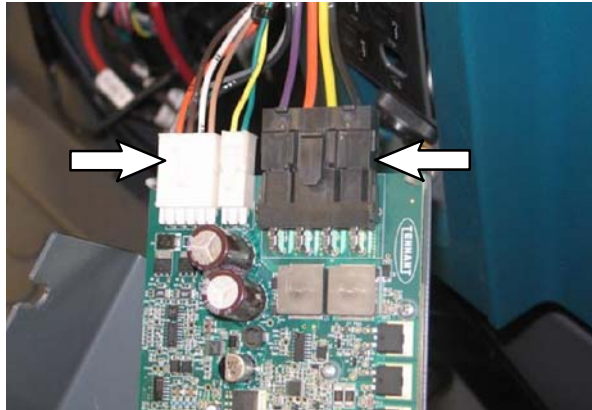
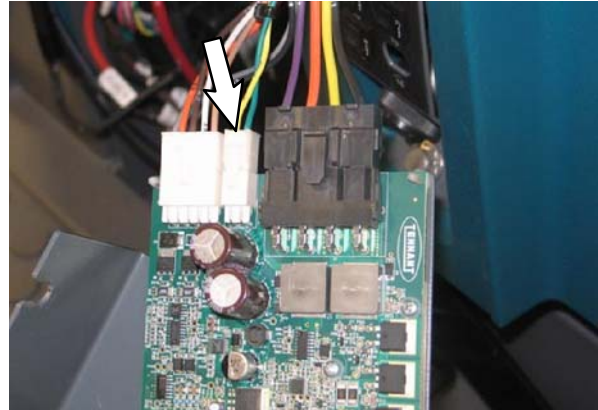
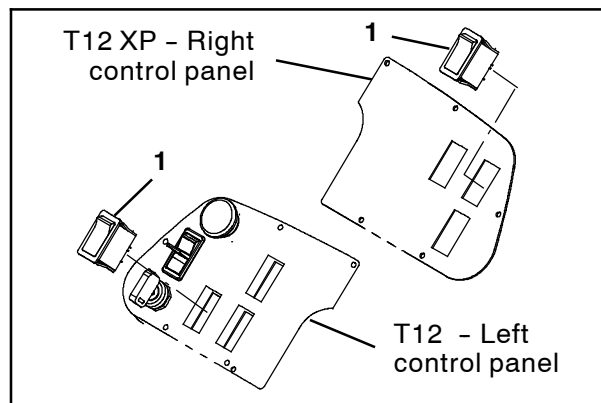
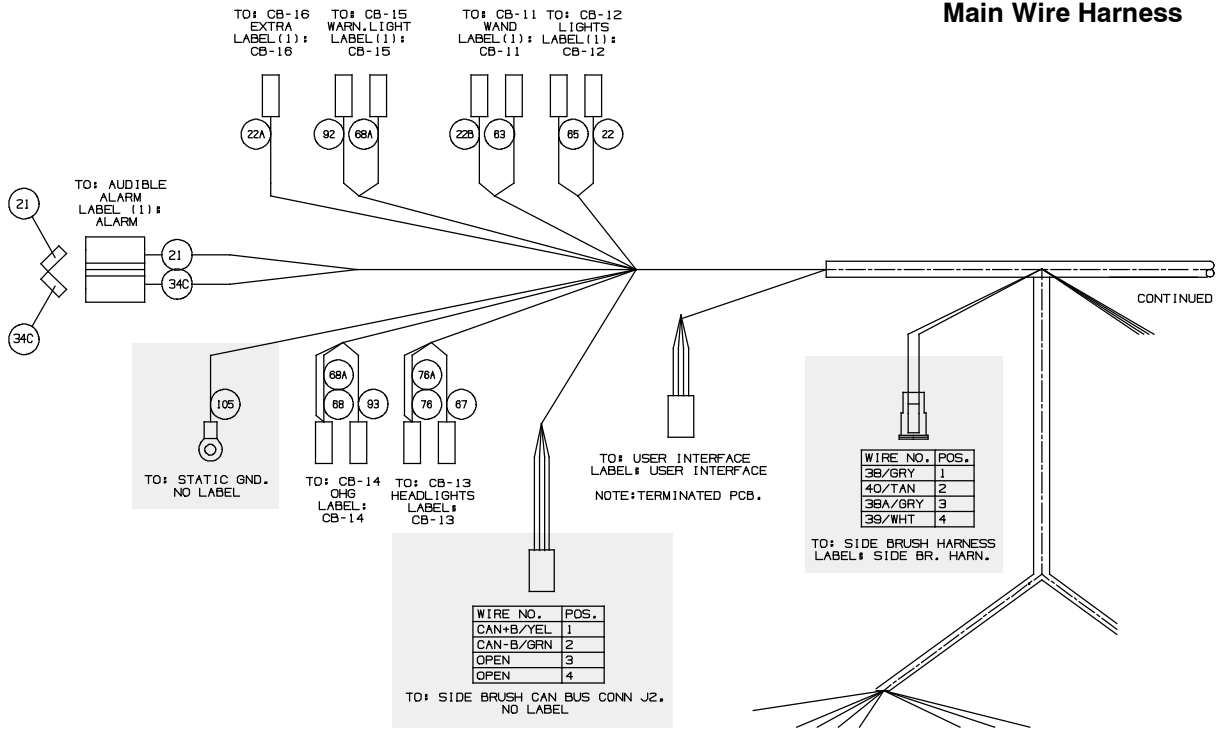

FIG. 13
FIG. 14
FIG. 15
FIG. 16
36. Connect the side brush wire harness to the 2.5-Amp circuit breaker (2) and the 20-Amp circuit breaker (3). (Fig. 10 / Fig. 11 / Fig. 16)
40. Connect the side brush harness to the side brush circuit board (4). (Fig. 13 / Fig. 16)
41. Connect the main wire harness to the side brush circuit board (4). (Fig. 14 / Fig. 16)
42. **T12 XP:** Remove the hardware securing the right control panel to the machine. Set the hardware aside. (Fig. 15)
T12: Remove the hardware securing the left control panel to the machine. Set the hardware aside. (Fig. 15)
43. **T12 XP:** Carefully lift the right control panel from the machine. Take care to not break any wire or cable connections. (Fig. 15)
T12: Carefully lift the left control panel from the machine. Take care to not break any wire or cable connections. (Fig. 15)
44. **T12 XP / T12:** Remove the blank from the space for the side brush switch. (Fig. 15)
45. **T12 XP / T12:** Install the rocker switch (1) into the control panel. (Fig. 15)
46. **T12 XP / T12:** Connect the side brush harness to the rocker switch (1). (Fig. 15 / Fig. 16)
47. **T12 XP / T12:** Reinstall the control panel onto the machine. (Fig. 15)
48. Connect the the side brush harness to the main wire harness. (Fig. 17 / Fig. 16)
49. Connect the side brush harness to the Curtis Controller. (Fig. 18 / Fig. 19 / Fig. 16)